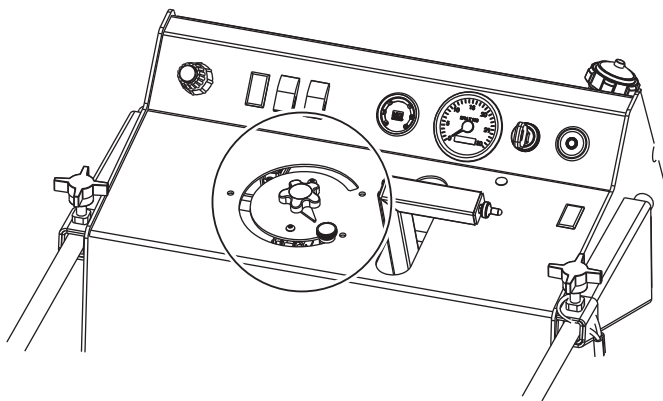

Figure 25. Depth Indicator
2. Set the Depth Indicator dial to zero. (The depth indicator now accurately indicates how deep the blade is cutting.) See Figure 25.